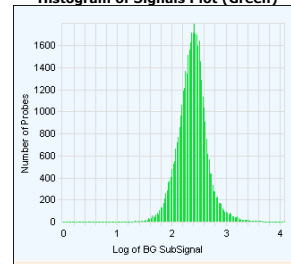
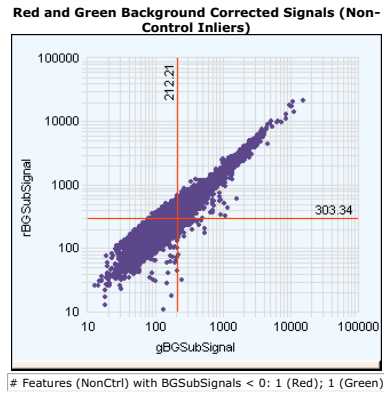

Figure 5 CGH QC report generated from Feature Extraction software v10.5, page 1
Figure 6 CGH QC report generated from Feature Extraction software v10.5, page 2
- 8 After the extraction is completed successfully, view the QC report for each extraction set by double-clicking the QC Report link in the **Summary Report** tab. Determine whether the grid has been properly placed by inspecting **Spot Finding of the Four Corners of the Array**. See Figure 5 and Figure 6.